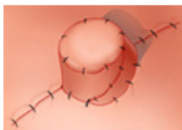

Figure 6
19. Complete the surgical procedure by closing all incision sites with a non-resorbing or slow resorbing leak tight suture line, as shown in Figure 6.